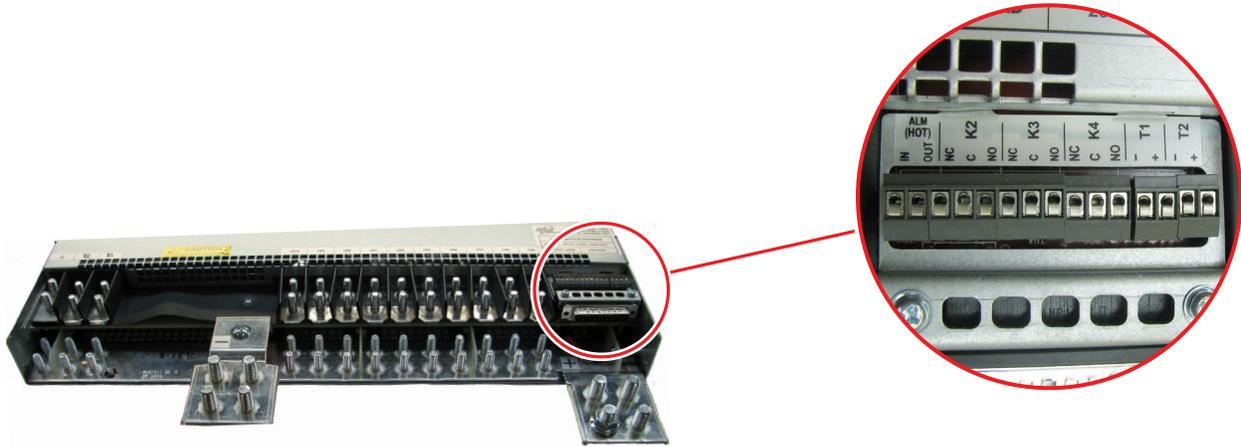

Figure 20 — Alarm and Signal Connections
1. Locate the terminal block on the rear of the CXPS-E101. Refer to Figure 20 and the schematic drawing at the end of this manual for details on terminal block assignments.